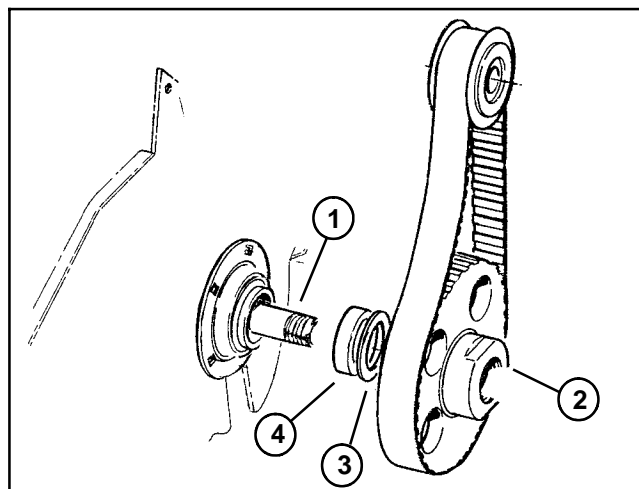

Figure 22
2. Remove pulley from drum shaft as follows (Fig. 22):
3. Install pulley to the drum shaft as follows (Fig. 22):